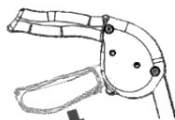

Fig. 6 (locked state)
1. Push down on the bottom of the brake handle in compliance with the drawing until you hear a click (Fig. 6)